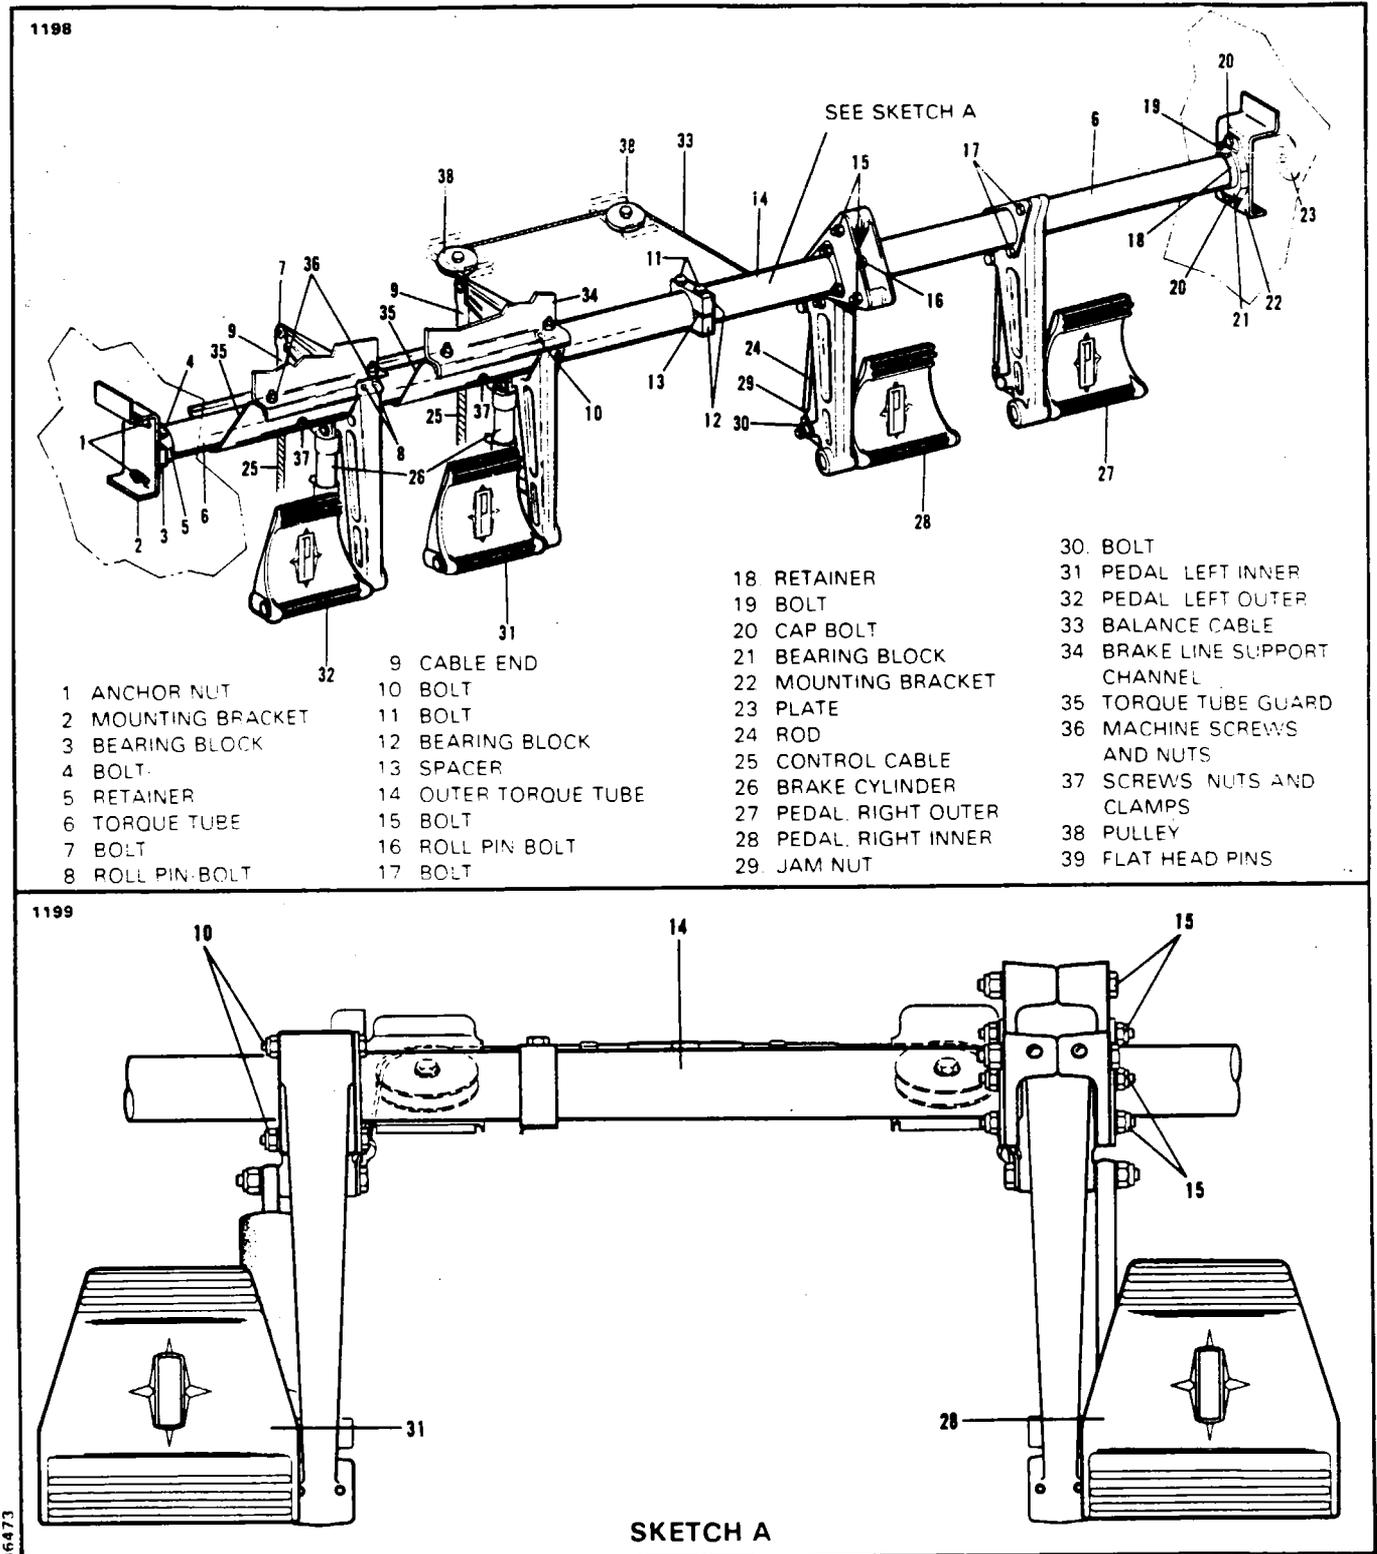

Figure 27-17. Rudder Pedal Installation
### REMOVAL OF RUDDER PEDAL ASSEMBLY. (Refer to Figure 27-17.)
**INSTALLATION OF RUDDER PEDAL ASSEMBLY.** (Refer to Figure 27-17.)